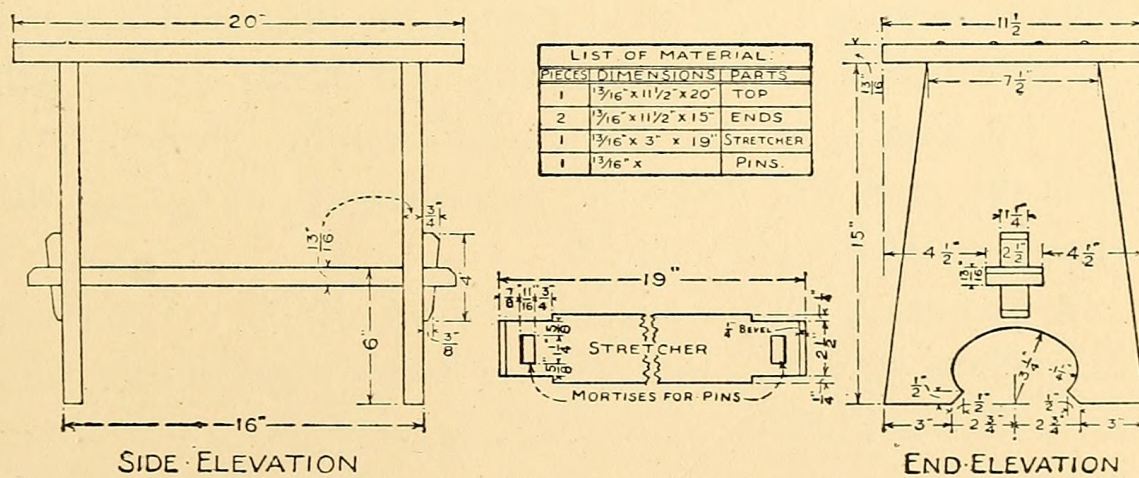

FIG. 128. — Details of Plant Stand shown in Fig. 124.
**The Plant Stand** illustrated by Fig. 124 is designed more or less along the lines of the much-used mission furniture. For the working-drawings see Fig. 128. The preparation of the mortises and tenons for the connection of the stretcher to the end pieces will be easy, if you have carried out the exercises suggested in Chapter III. The mortises are slightly *undercut* on the outer end to make them correspond with the taper on the pins, and are cut  $\frac{1}{16}$  inch inside of the line of the side pieces, as you will see by looking at the dimensions on the stretcher, so that the pins will drive the end pieces tight against the shoulders of the stretcher.